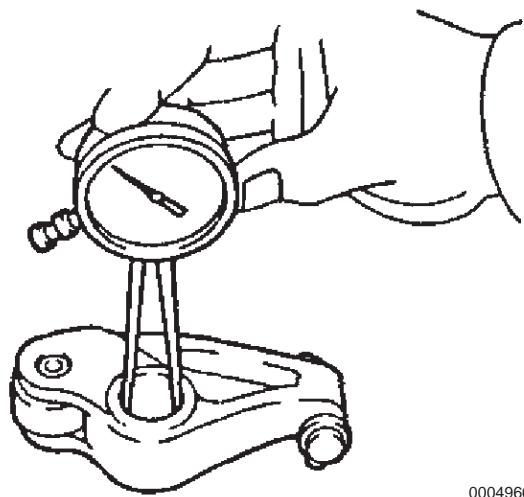

Figure 5-41
- Measure the inside diameter of the rocker arm using a caliper gauge (**Figure 5-41**).